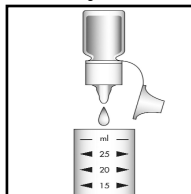

Figure 2
2. Add 4 drops (3 drops for K-9510B) of S-9500 Activator Solution (fig. 2). Cap the cup and shake it to mix the contents well.